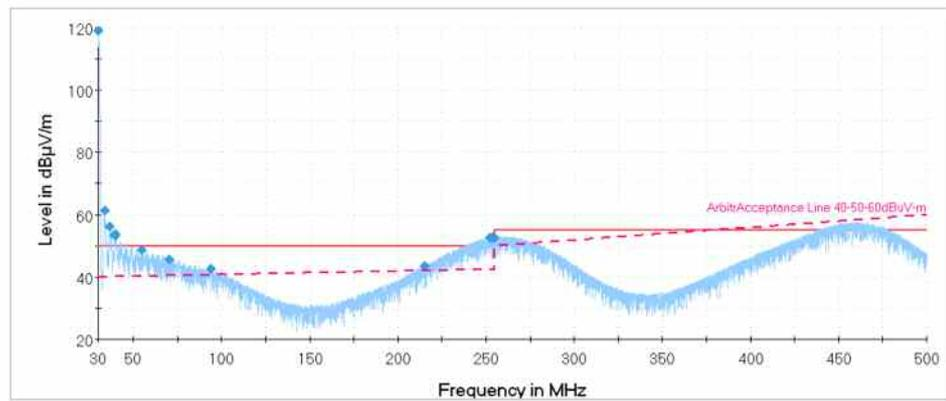

Figure 34: Partial Acceptance Analysis with arbitrary Acceptance Line
- an **arbitrary acceptance line** (Figure 34) for each detector (the acceptance offset will then be ignored). This acceptance line is a user-defined limit line and all level points which are higher than the arbitrary acceptance line will be accepted.